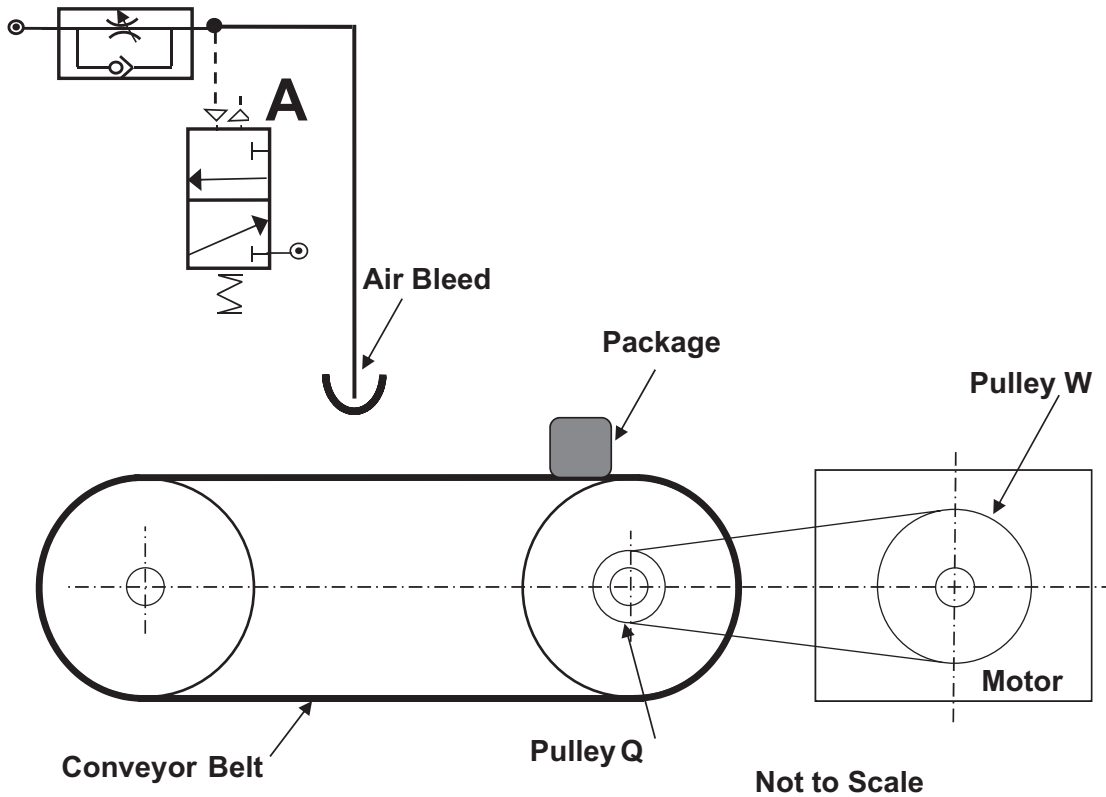
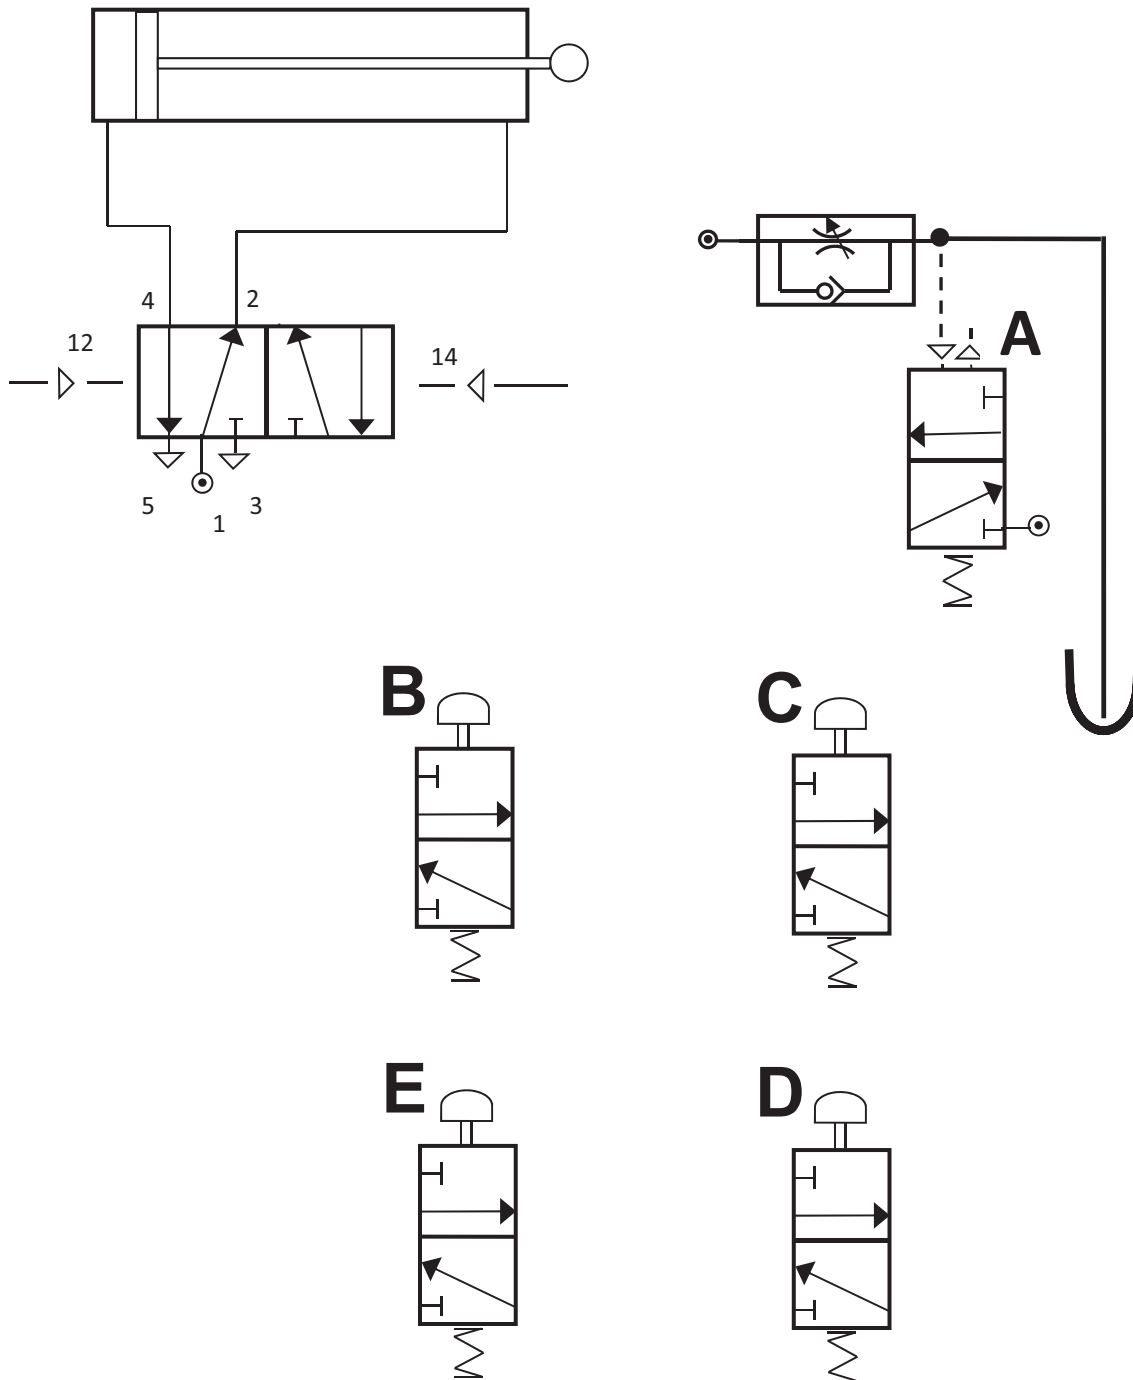

Fig. 10
Fig. 11
- 3 **Fig. 10** shows an incomplete conveyor belt system which incorporates both mechanical and pneumatic components. Packages activate the air bleed as they move past on the conveyor belt.
(c) Valve **A**, shown in **Fig. 10**, forms part of the incomplete pneumatic circuit shown in **Fig. 11**. Add any other necessary components to **Fig. 11** to enable speed control of the outstroke of the double acting cylinder following a delay in time after valve **A** has been activated. [4]
(d) Add any other necessary components to **Fig. 11** to enable the double acting cylinder to instroke following activations at **B OR C OR D AND NOT E**. [5]